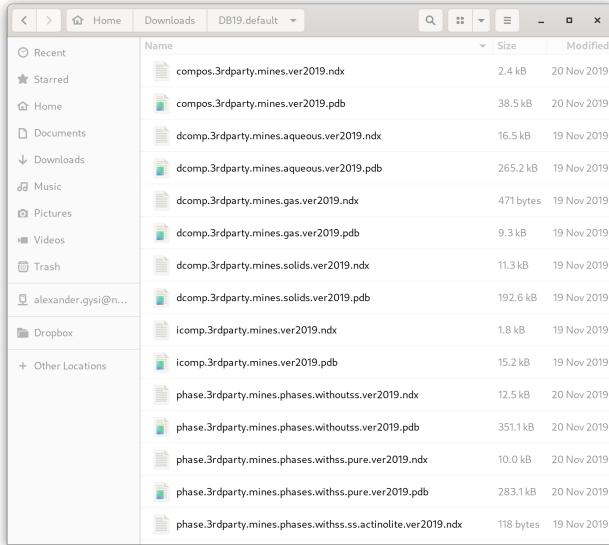

Figure 1.2: Unzipped DB19.default folder and database files to copy.
- Download and unzip the DB19.default archive folder to Downloads. Select all the database files in this folder and copy them (Fig. 1.2).